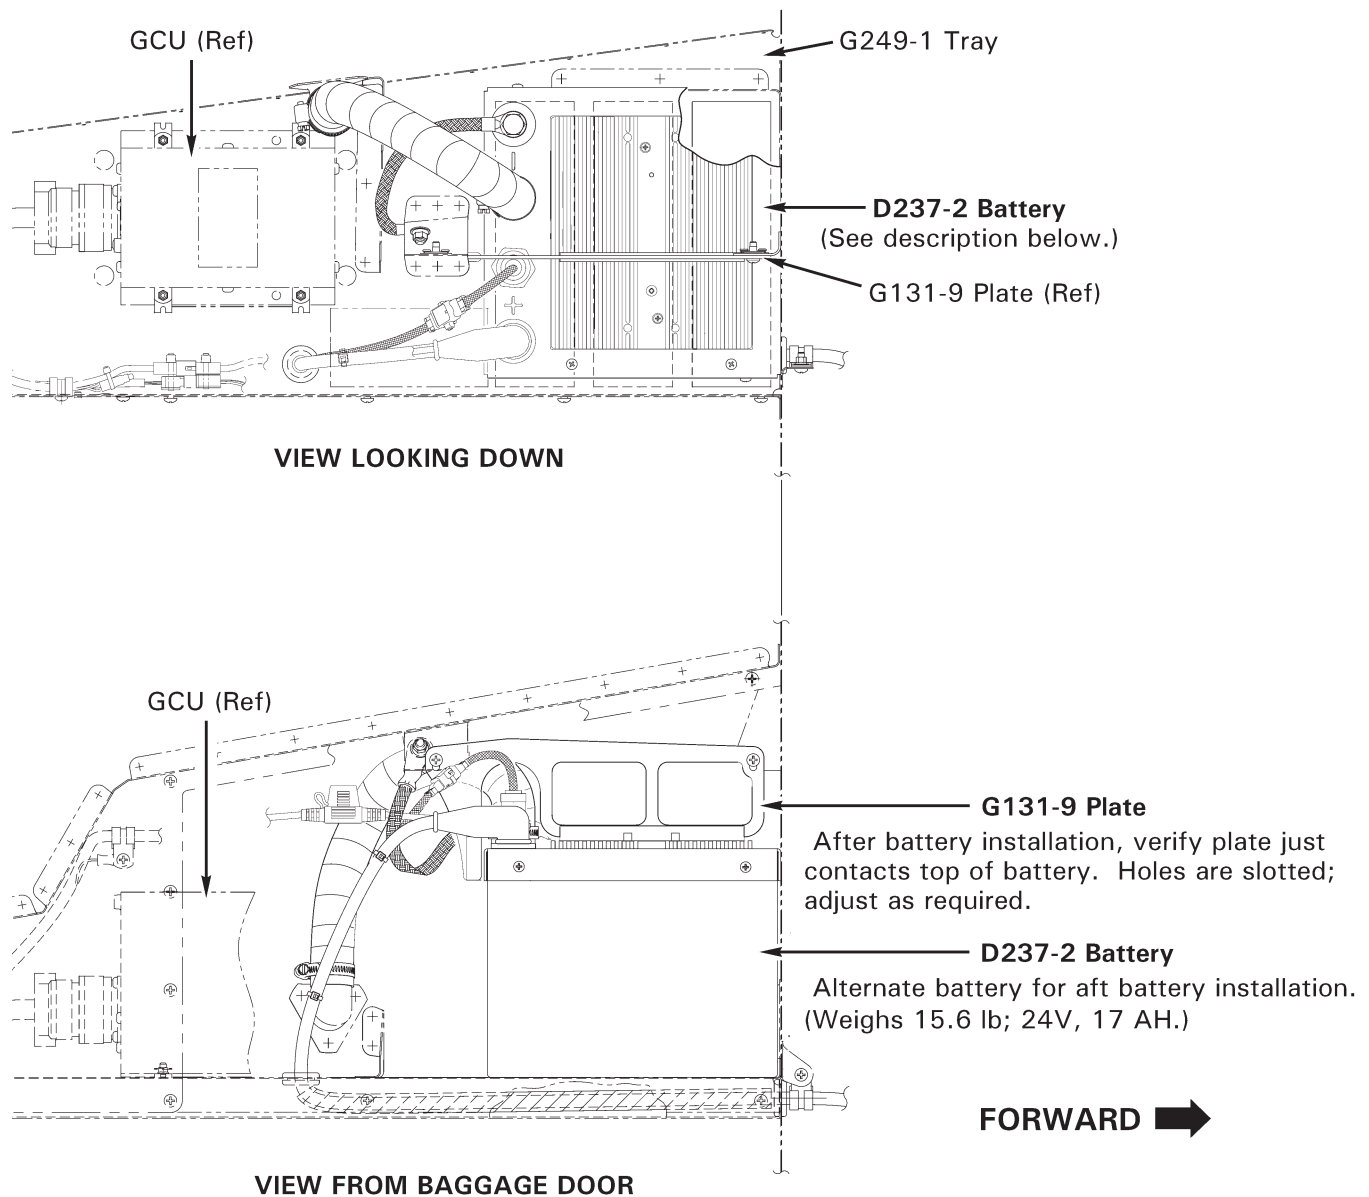

FIGURE 96-2 LITHIUM-ION BATTERY INSTALLATION
4. Refer to Figure 96-2. Verify security, proper orientation, and installation of G131-9 plate. Carefully install battery.